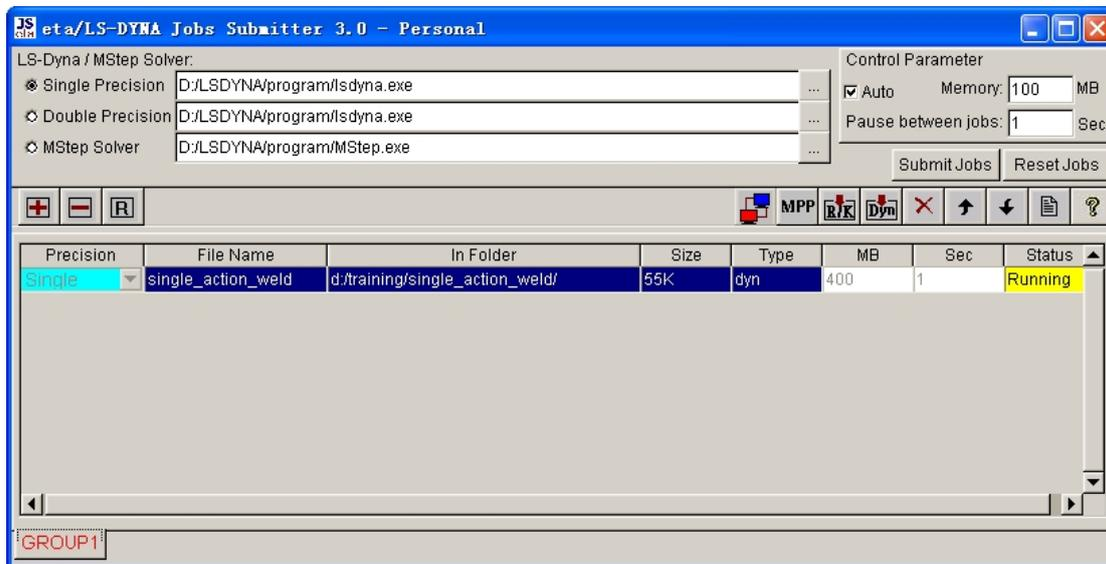
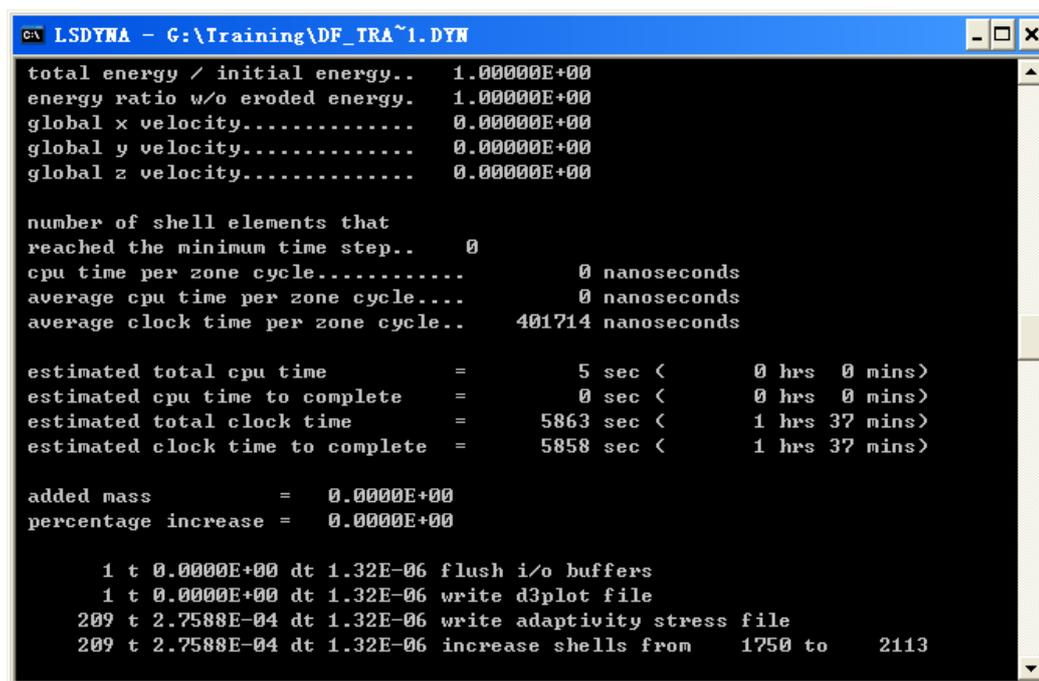

Figure 5.80 Submit job interface
Figure 5.81 LS-DYNA solver window
3. Click **Submit** button from the SUBMIT JOB dialog box to display the Job Submitter interface illustrated in Figure 5.80.
4. Click **Submit Jobs** button, as shown in Figure 5.80 to activate the LS-DYNA solver for running the stamping simulation. The LS-DYNA solver window illustrated in Figure 5.81 is displayed and the simulation is in